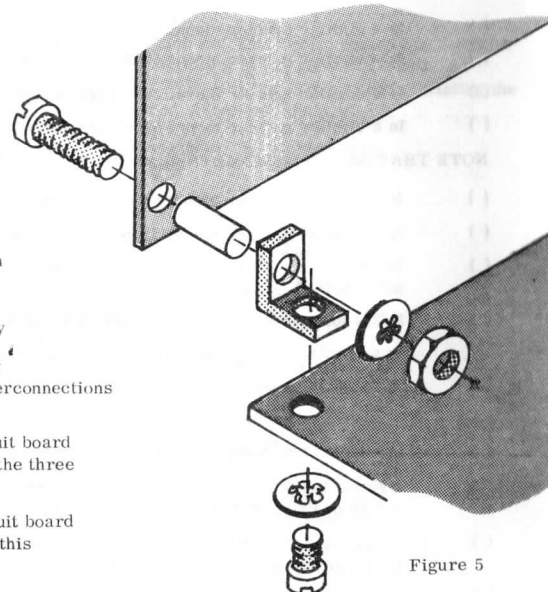

Figure 5
- ( ) Fasten the two "L" brackets to the front panel using one 1 inch 4-40 screw, one 3/4 inch spacer, one lockwasher and one 4-40 nut on each bracket as shown in figure 5. Note that the unthreaded hole in the "L" bracket is used in this operation.